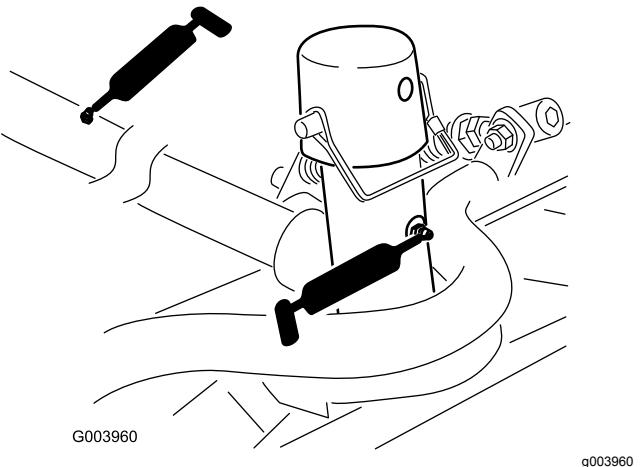

Figure 38
- Cutting-unit carrier-frame and pivot (2 each) (Figure 38)